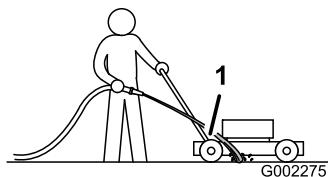

Figure 41
3. Hold the running garden hose at handle level and direct the water to flow on the ground just in front of the right rear tire (Figure 41).